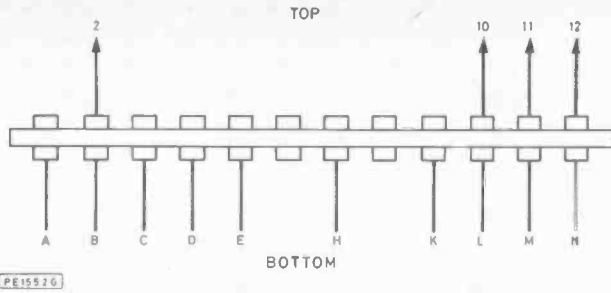

Fig. 7. The connections to the 2 x 12-way edge connector
0.156 inch type (not the more common 0.1 inch variety). Fig. 7 shows the connections to the edge connector (which is viewed looking onto the pins at the rear of the connector). There are two slots in the Commodore 64's printed circuit board which can take polarising keys in the edge connector, but a suitable connector might be difficult to obtain. It would probably be possible to add these keys to an ordinary edge connector, or, alternatively, the top and bottom of the connector could be clearly marked as such.